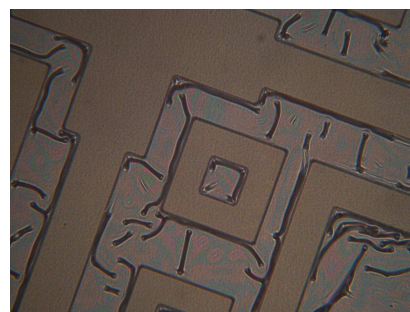

Fig 2
- Develop in 1:4 AZ400K 30-45 s. [Fig 2]
Note: Further-develop if necessary in increments of 5-10 s until PI film is micro-cracked. [Fig 2]
- During developing, film will appear to quickly brighten and "shatter". This is due to appearance of micro-cracks in regions of exposed PI. [Fig 2] Micro-cracks appear to promote subsequent development of PI film by MIF-319. If MIF 319 is used throughout process (PR develop + PI dissolution) resulting PI edges will be jagged and may over-dissolve narrow regions.